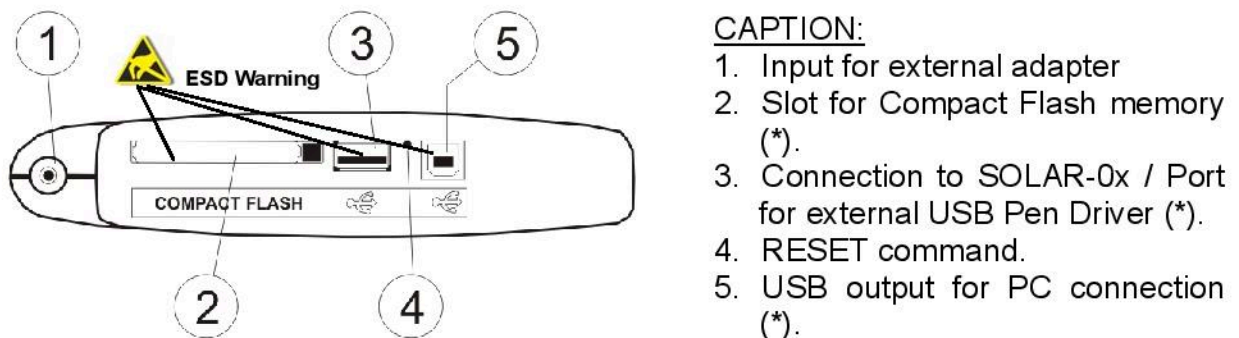

Fig. 3: Description of meter's output connectors
1. Using the PT400 pointer pen or another object softly pressing the internal part of the little hole which is present on the lateral side of meter (see Fig. 3 – Fig. 4). The meter goes automatically off.